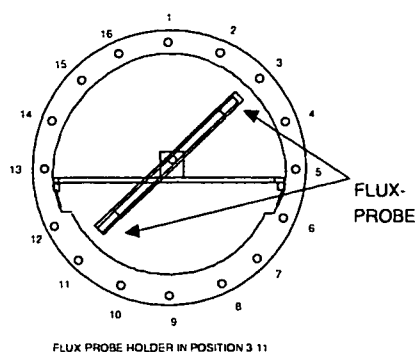

Figure 1 Flux-probe holder in QBC
6. Mount the probes on both ends of the holder. See Figure 1.